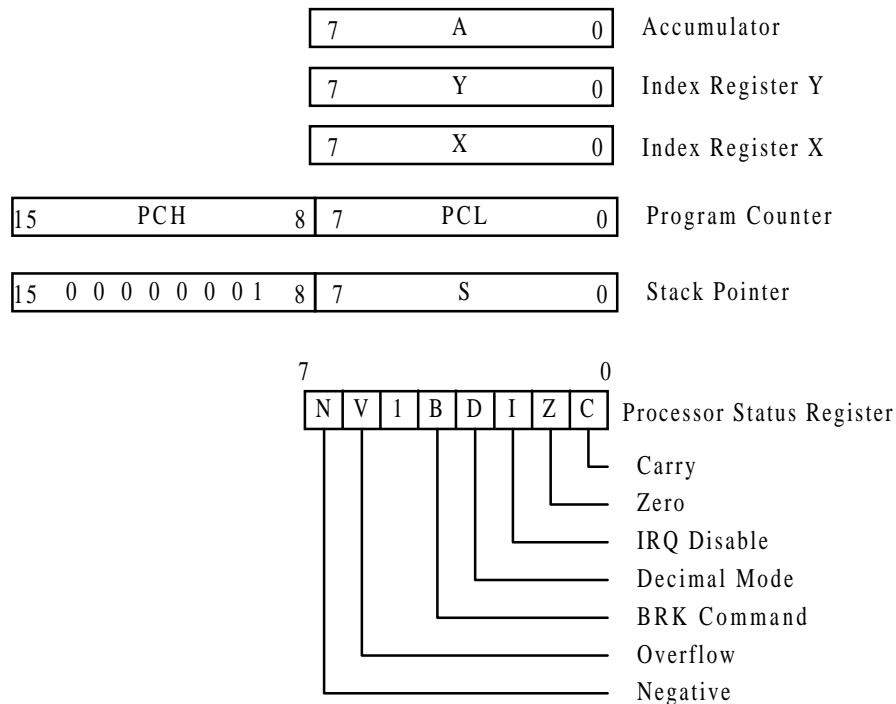

Fig. 1-1-1 Register structures of the 6502 microprocessor
Fig. 1-1-1 shows a register structures diagram of the 6502 microprocessor. There are 6 main registers: a 16-bit program counter (PC), an 8-bit accumulator (A or AC), two 8-bit index registers (X and Y), an 8-bit stack pointer register (S or SP), and an 8-bit status register (P).